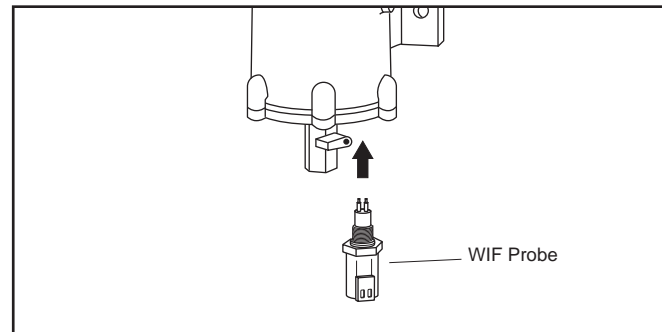

Figure 2 - WIF Probe Installation
Step 1 - Install the WIF Probe (3911940 S) into the bottom of the Diesel Pro (see Figure 2). Torque to 20-25 in-lbs (2.3-2.8 N·m).